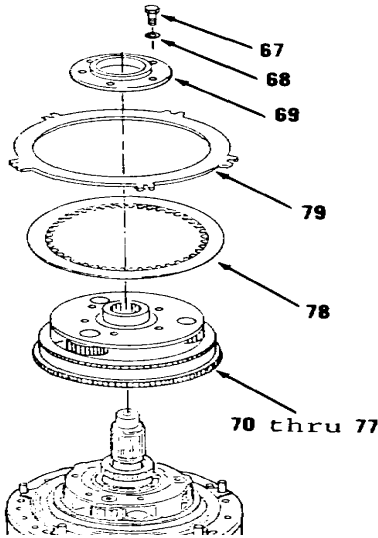

Figure 14-72.
- 20. Install three new pins (71) and new plugs (77), if removed, to shafts (72) in carrier (70).
- 21. Install items 77 thru 70 as an assembly (Figure 14-72).
- 22. Install two discs (78), one plate (79), cage (69), six washers (68) and bolts (67).